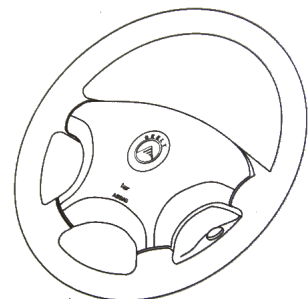

fig.1
- (1) Unscrew the screws of the two sides, see fig.1